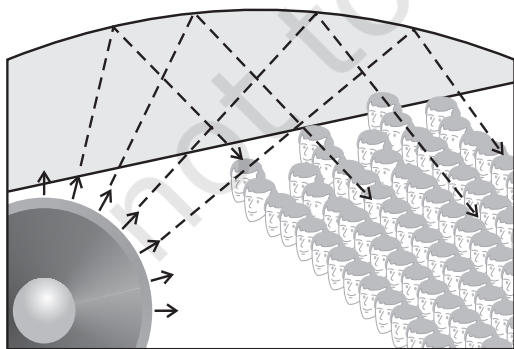
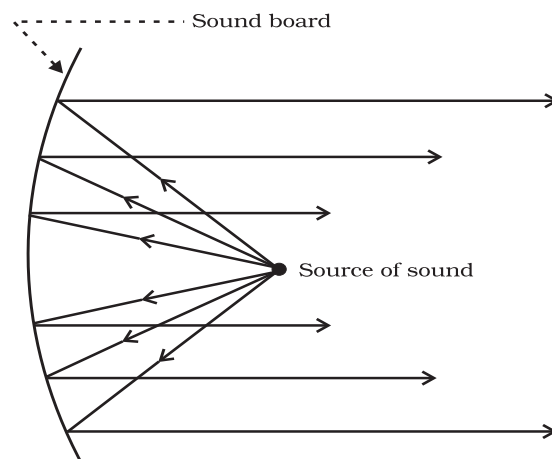

Fig. 11.12: Curved ceiling of a conference hall.
Fig. 11.13: Sound board used in a big hall.
3. Generally the **ceilings of concert halls, conference halls and cinema halls are curved so that sound after reflection reaches all corners of the hall**, as shown in Fig 11.12. Sometimes a curved soundboard may be placed behind the stage so that the sound, after reflecting from the sound board, spreads evenly across the width of the hall (Fig 11.13).